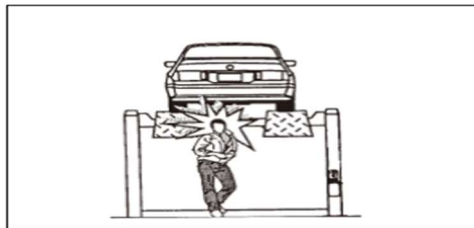

Figure 32 - Impact risk
- **When the height of the lifting platform is less than 1.75 meters; relevant personnel should avoid hitting their heads when entering the platform. (Figure 32)**